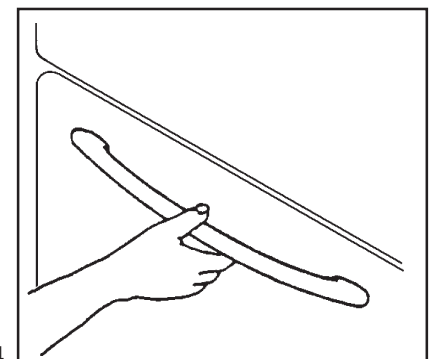

Fig. 4
**To open the oven door, always hold the handle in the centre (Fig. 4).**